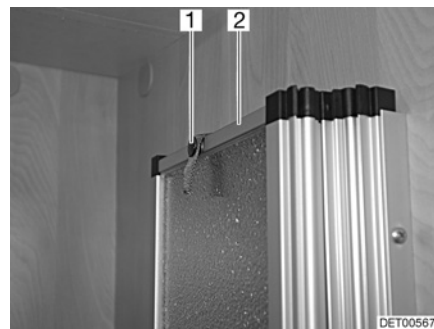

Fig. 113 Securing attachment, shower partition
- Loosen the retaining strap (Fig. 113,1) of the shower partition (Fig. 113,2) and pull out the shower partition.
- Fold up the shower partition (Fig. 113,2) and fasten with the retaining strap (Fig. 113,1).